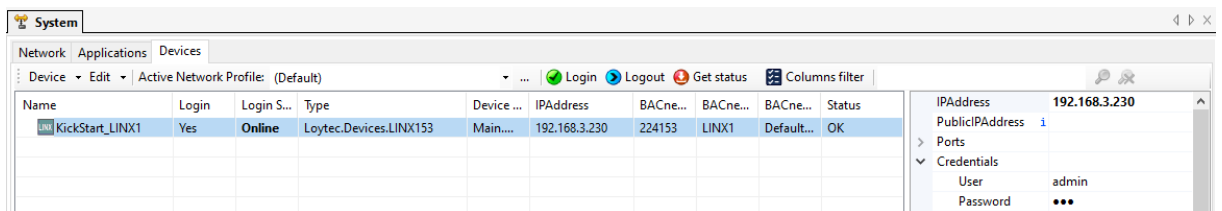

Figure 55: Enter IP address and credentials for the device resource.
22. Edit the IP address, login credentials for the device as shown in Figure 55. Then click **Save** in the toolbar.